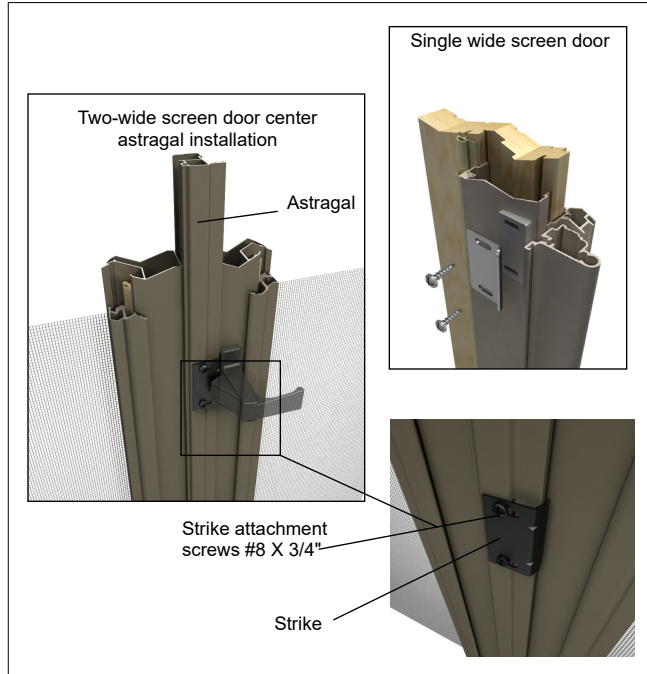

Figure 2
1. Close the screen door and center the strike on the inside handle latch and mark the position for the screw holes. See figure 2.